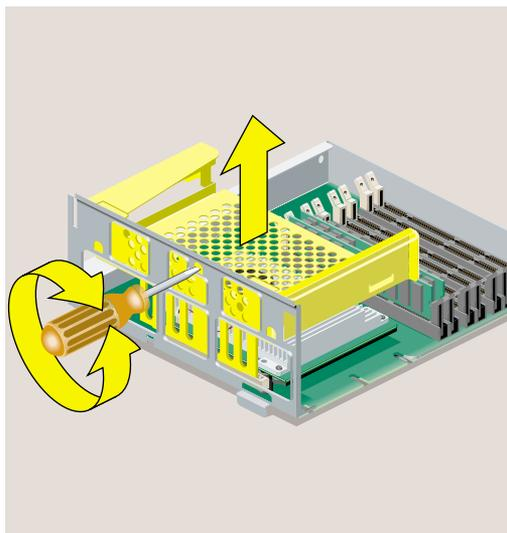

Figure 2-34 Removing the PCI Tray From the R10000 System Module
- Insert a screwdriver in the small opening shown (Figure 2-34). Use a twisting motion first to release the PCI connector from the slot on the system module. Then use an up and down motion to release the PCI tray.